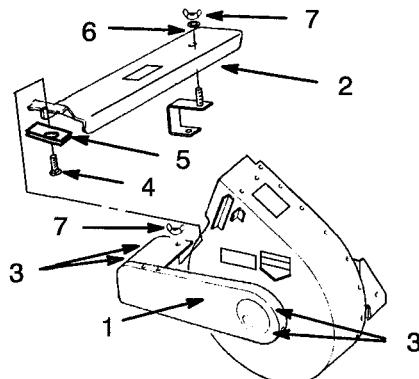

Figure 10
16. Install outside belt cover to blower and mower with (4) 5/16-18 x 1/2 thread forming bolts (Fig. 10).
17. Secure flat plate (1 x 2-1/2) with square hole, 5/16-18 x 3/4 carriage bolt, and two wing nuts. Place plate over carriage bolt and loosely install in outside belt cover using one wing nut (Fig 10).